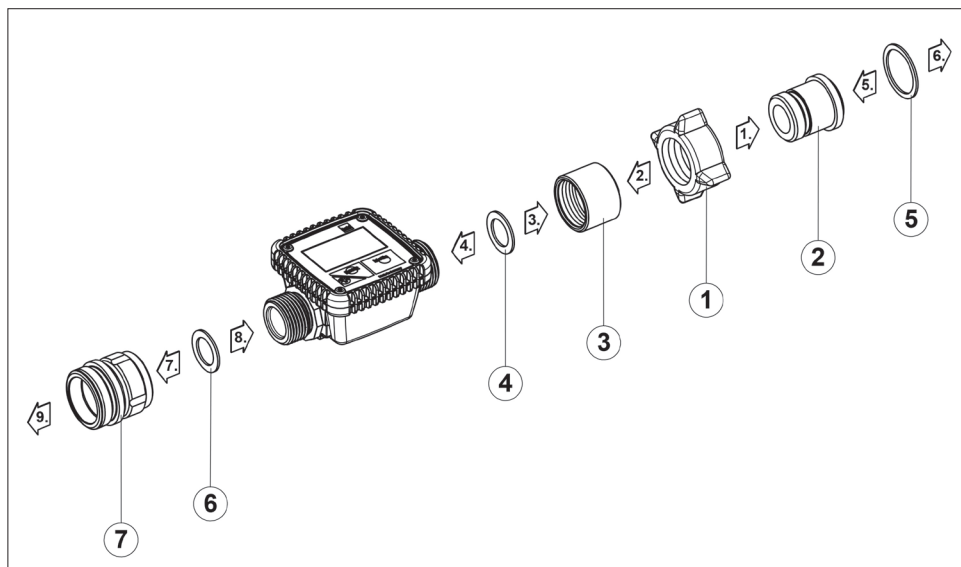

Fig. 4
1. Push the wing nut (1) over the threaded nipple (2) (→ Fig. 4)
2. Screw the threaded nipple (2) into the threaded sleeve (3)
3. Insert the seal (4) in the threaded sleeve (3)
4. Screw the threaded sleeve (3) onto the flow meter
5. Insert the seal (5) into the wing nut (1)
6. Screw the flow meter with wing nut (1) onto the nozzle
7. Insert the seal (6) into the connection sleeve (7)
8. Screw the connection sleeve (7) onto the flow meter